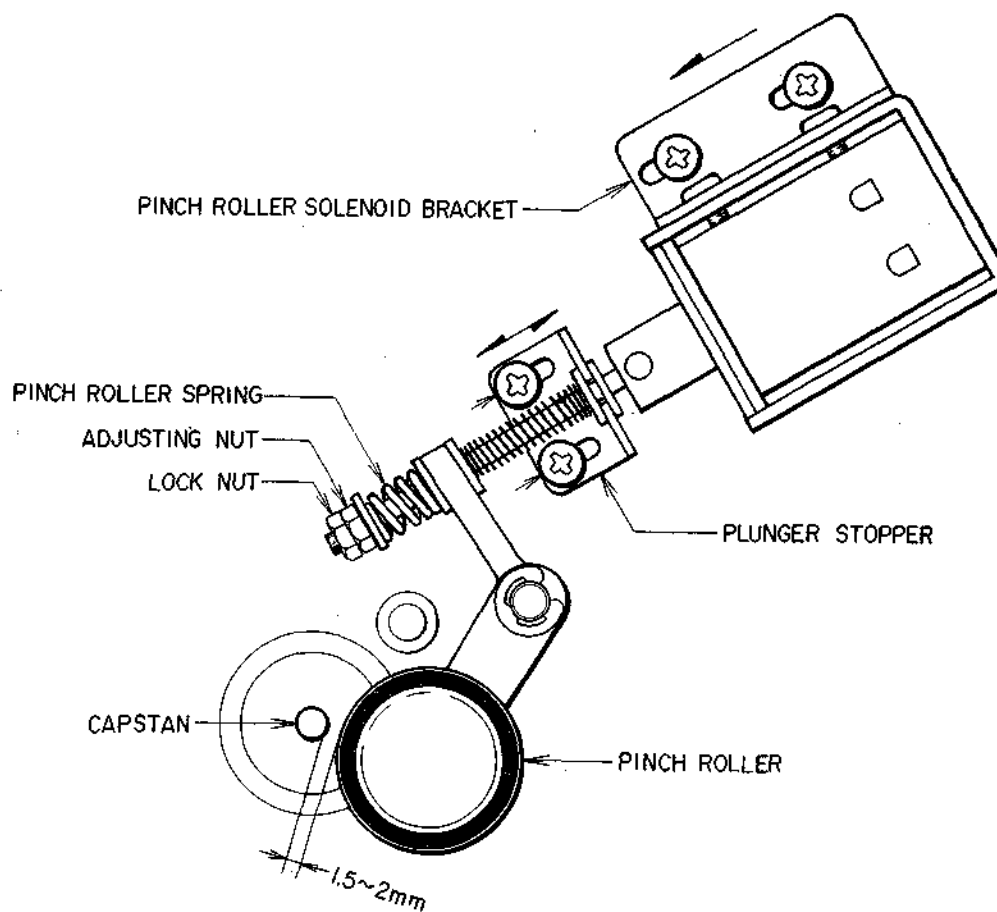

Fig. 1
- (a) Loosen solenoid Holder bracket screw and position solenoid toward the arrow mark direction in Fig. 1 and fix at this position.
- (d) Loosen Pinch Roller Spring Lock Nut. With other nut (adjusting nut, fig. 1), adjust pinch roller pressure. After adjustment has been made, tighten Lock Nut.